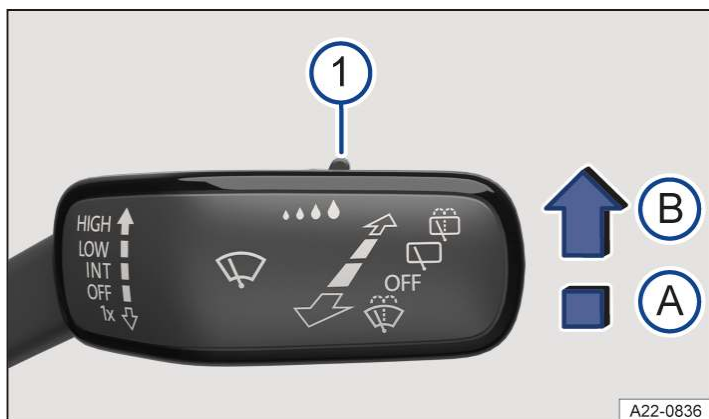

Fig. 1 On the right of the steering column: wiper lever.
1. Push the lever into the required position → Fig. 1.
The sensitivity of the rain and light sensor can be adjusted manually using the switch in the wiper lever → Fig. 1 ①, → ⚠.